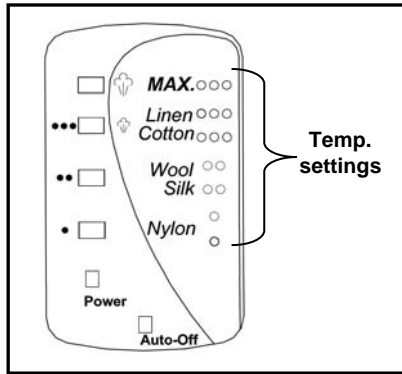

Fig. 6
4. The light on the right side of the LED display panel will stop flashing when the desired temperature has been reached. (Fig. 6)